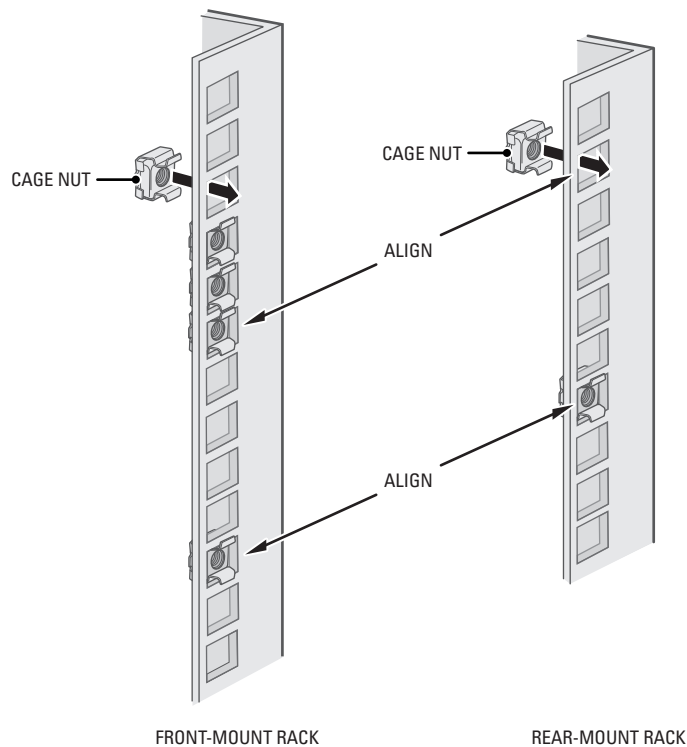

Figure 11. Inserting the Cage Nuts
5. *If you are installing the unit into a square-hole rack:* Insert 14 cage nuts into the square-hole rack as shown in Figure 11. Align the bottom cage nuts on the front racks with the bottom cage nuts on the rear racks. Then align the top cage nuts with the front racks.